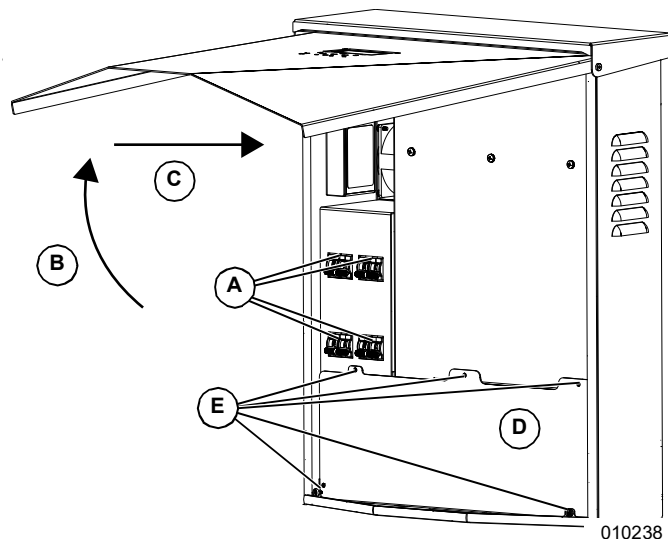

Figure 7-1. Wiring Compartment
3. Open inverter front cover by lifting the bottom to horizontal (B) and pushing inward (C).
4. See Figure 7-1. Open all PWRcell DC Disconnects (A). Verify DC voltage reported on LCD screen has dropped to below 10VDC.
6. Locate wiring compartment cover (D).
7. Remove five M4X10 screws (E) and wiring compartment cover.
2. See Figure 7-1. Open all PWRcell DC Disconnects (A). Verify DC voltage reported on LCD screen has dropped to below 10VDC.